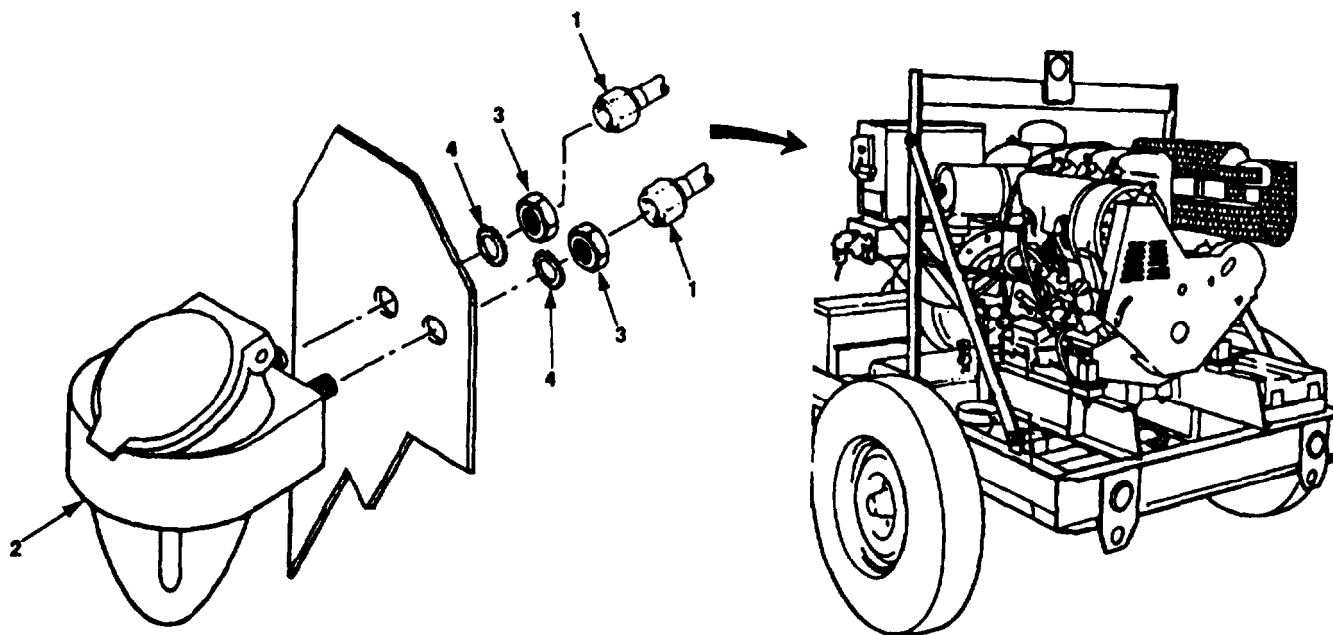

Figure 4-6. Starting Aid Reservoir Maintenance (Models 350 PAW and W-87012).
- a. Tag and disconnect two hoses (figure 4-6, 1) from reservoir (2).
- b. Remove two nuts (3) and external tooth lockwashers (4) .
- c. Remove reservoir (2).